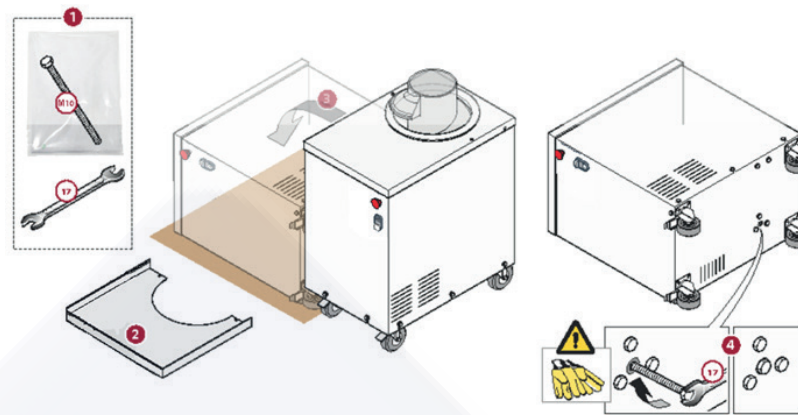

Fig. 6
- Take the M10 screw from the bag supplied with the machine, get a size 17 mm wrench (not supplied) (Fig. 6 point 1)
- Remove the tray ((Fig. 6 point 2);
- Tilt the ROUNDING MACHINE resting it on its side; protect the side touching with the floor with cardboard to avoid scratching the stainless steel surfaces ((Fig. 6 point 3);